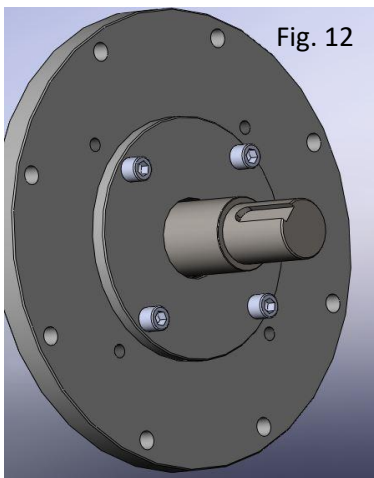

Fig. 12
1. unscrew the 4 screw of the bearing box cover (fig 12)